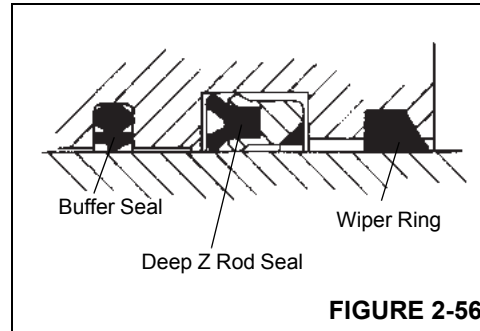

FIGURE 2-56
1. Install the replacement wear rings, buffer seal, rod seal and wiper ring in the inside of the head (Figure 2-56). Make sure the buffer seal's step is away from the wear rings. Make sure the deep Z rod seal rim groove is closer to the wear rings.